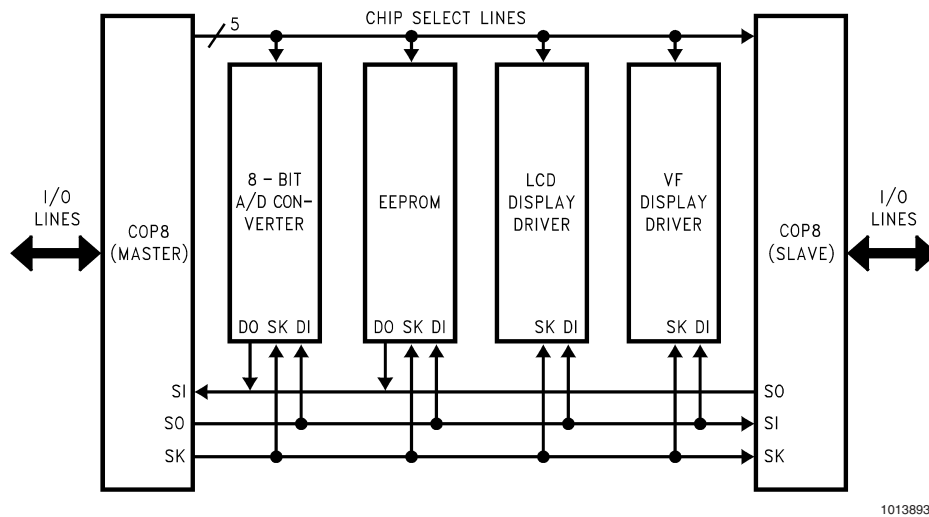

FIGURE 29. MICROWIRE/PLUS Application
MICROWIRE/PLUS is a serial SPI compatible synchronous communications interface. The MICROWIRE/PLUS capability enables the device to interface with MICROWIRE/PLUS or SPI peripherals (i.e. A/D converters, display drivers, EEPROMs etc.) and with other microcontrollers which support the MICROWIRE/PLUS or SPI interface. It consists of an 8-bit serial shift register (SIO) with serial data input (SI), serial data output (SO) and serial shift clock (SK). *Figure 29* shows a block diagram of the MICROWIRE/PLUS logic.
enabled, an interrupt is generated when eight data bits have been shifted. The device may enter the MICROWIRE/PLUS mode either as a Master or as a Slave. *Figure 29* shows how two microcontroller devices and several peripherals may be interconnected using the MICROWIRE/PLUS arrangements.